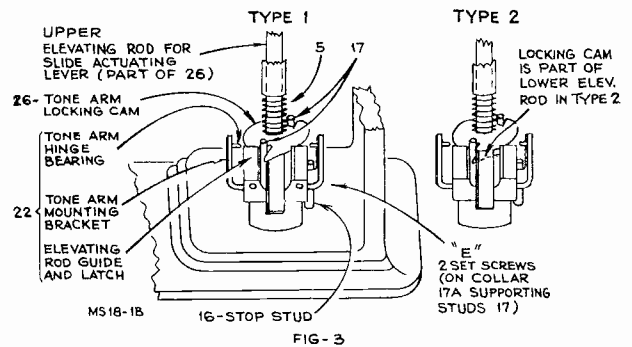

FIG. 3
3. With the tone arm and record separator shelf removed, assemble the parts shown in fig. 3.
4. Rotate tone arm mounting bracket (22) assembly counterclockwise against stop stud (3).
5. Studs 17 should be in the position indicated in fig. 3, when the trip stud (15) (fig. 4) is pulled toward the record center post as far as it will go.
6. Tighten set screws "E" (fig. 3), allowing very little vertical play in tone arm pivot (but not binding).
7. Place record separator shelf in position, with the tone arm locking cam (26) in the position indicated in fig. 3.
Tone Arm Locking 'Cam (26) (fig. 3)